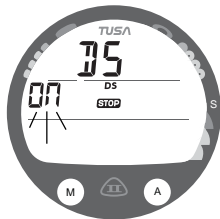

Fig. 28 - SET DEEP STOP
**Set Deep Stop**, information includes (Fig. 28):